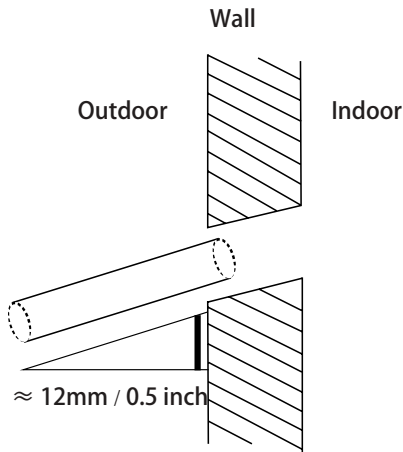

Fig. 6.4
3. Using a 65-mm (2.5") core drill, drill a hole in the wall. Make sure that the hole is drilled at a slight downward angle, so that the outdoor end of the hole is lower than the indoor end by about 12mm (0.5"). This will ensure proper water drainage (See Fig. 6.4). Place the protective wall cuff in the hole. This protects the edges of the hole and will help seal it once you finish installation.